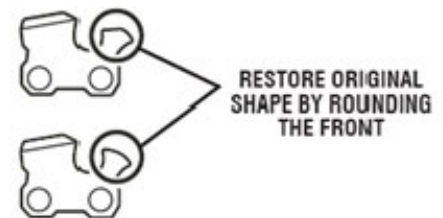

Figure 30
9. After lowering each depth gauge, restore original shape by rounding the front. Be careful not to damage adjoining drive links with the edge of the file (**Figure 30**).